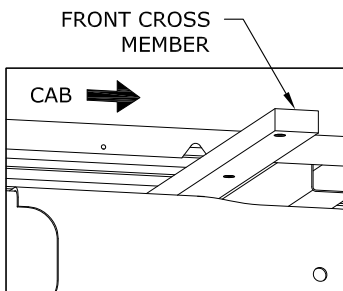
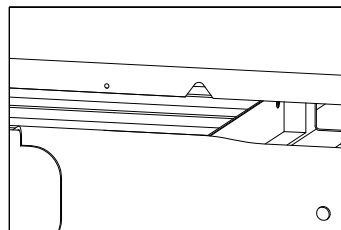
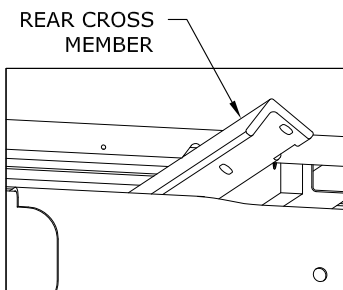
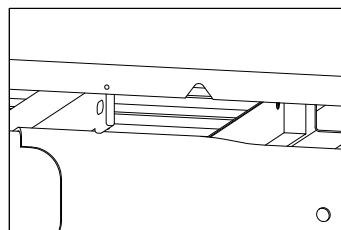

FIGURE B1
FIGURE B2
FIGURE B3
FIGURE B4
1. **Place Cross Members.** Using the notch cut in the bed flange inside the passenger side rear wheel well, slide the cross member across the frame until it spans both frame rails, See figure B1. Rotate cross member so that the holes on the end of the cross member are closest to the floor of the bed. Push cross member forward against bed cross member, See figure B2. Using the notch for clearance install the rear cross member with the angle oriented so that the leg with the slotted holes is facing the front of the truck, See figure B3. Hold the rear cross member in an inverted V position, and push the angle across the frame. Slide the cross member toward the rear of the truck so that there is approximately 10 inches between both cross members. Then rotate the cross member so that the leg with the slotted holes is vertical, See figure B4.